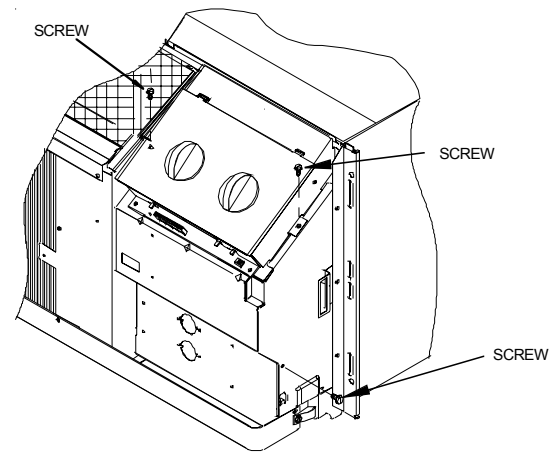

Figure 10
17. To gain access inside the control panel, remove the knobs and escutcheon. Remove the three screws holding the panel in position. Tilt the control panel forward, being careful not to pinch any wires (Figure 10).
18. Lift the control panel up so the control panel is free of its hinges. Orient the control panel so there is easy access for mounting components to the control panel (Figures 10 and 11).